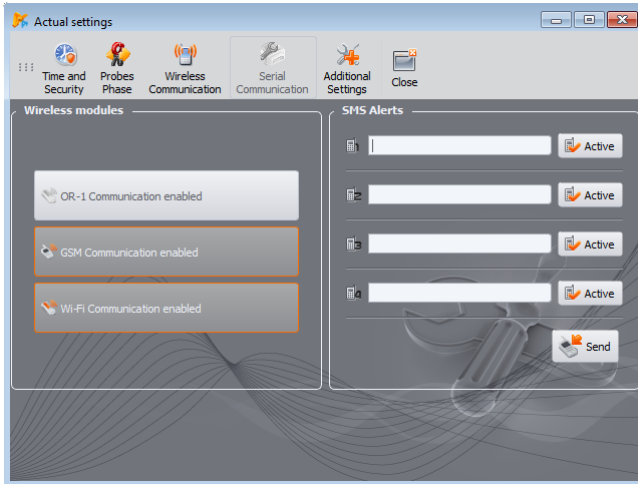

Fig. 32. Screen for settings of the analyzer, available wireless transmission media.
- Go to **WIRELESS CONNECTIONS** tab (Fig. 32) and check whether **WI-FI COMMUNICATION ENABLED** is active. If it is not, enable it.
- Go to **WIRELESS CONNECTIONS** (Fig. 32) and check whether **WI-FI COMMUNICATION ENABLED** is active. If it is not, enable it.